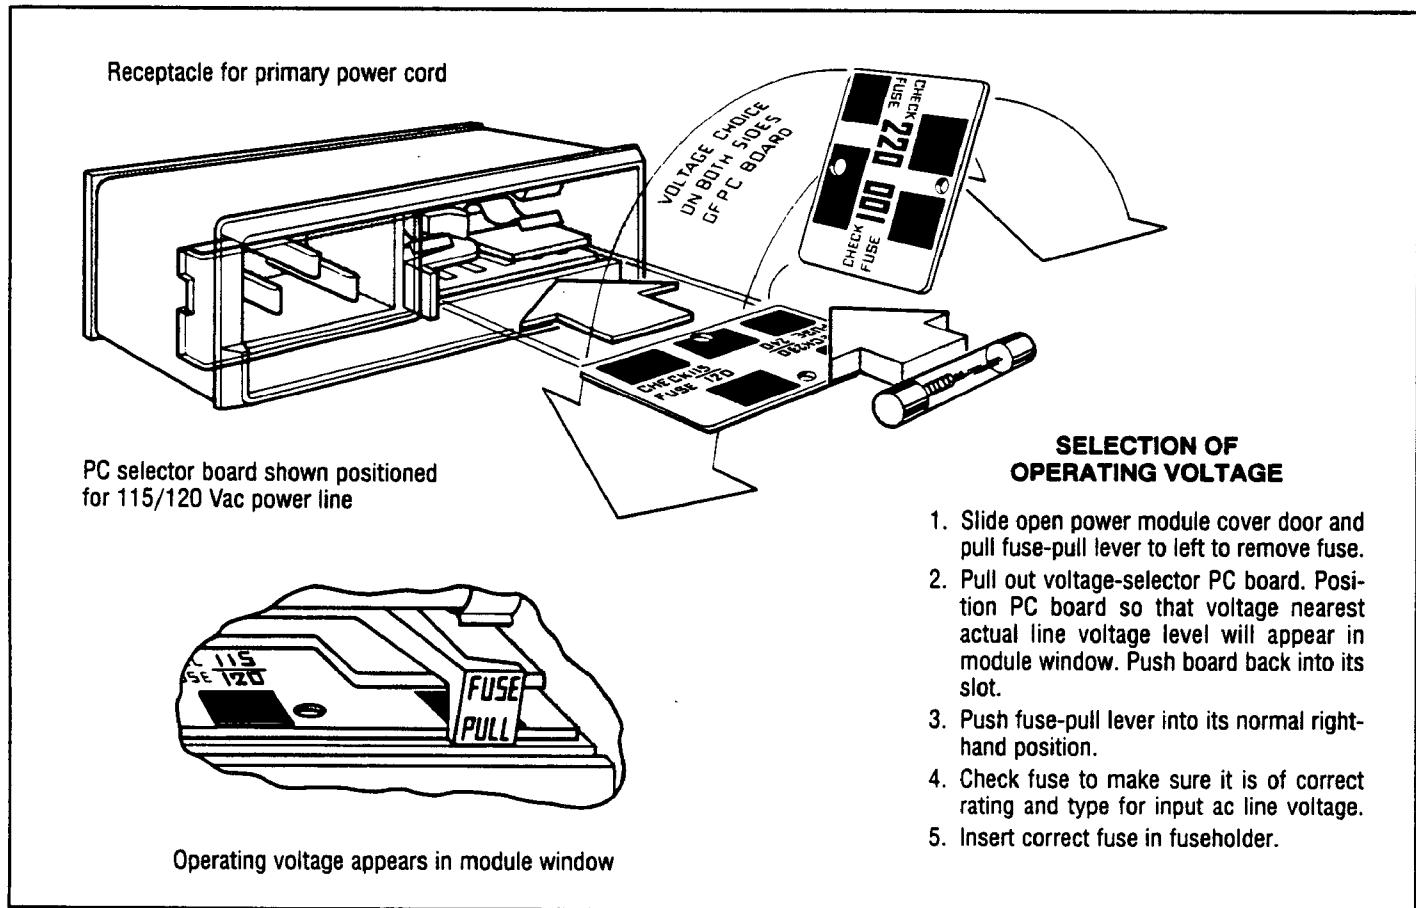

Figure 2-1. Power Line Module
Figure 2-1 illustrates the line voltage selection card and fuse location in the Power Line Module on the rear panel of the HP 8350B. Select the line voltage and fuse as follows:
- b. Refer to Figure 2-1. At the instrument rear panel power line module, select the line voltage (100, 120, 200, or 220 volts) closest to the voltage you measured in step A. Note the available line voltage must be within +10% to -10% of the line voltage selection as shown in Table 2-1. If it is not, you must use an autotransformer between the power source and the HP 8350B.